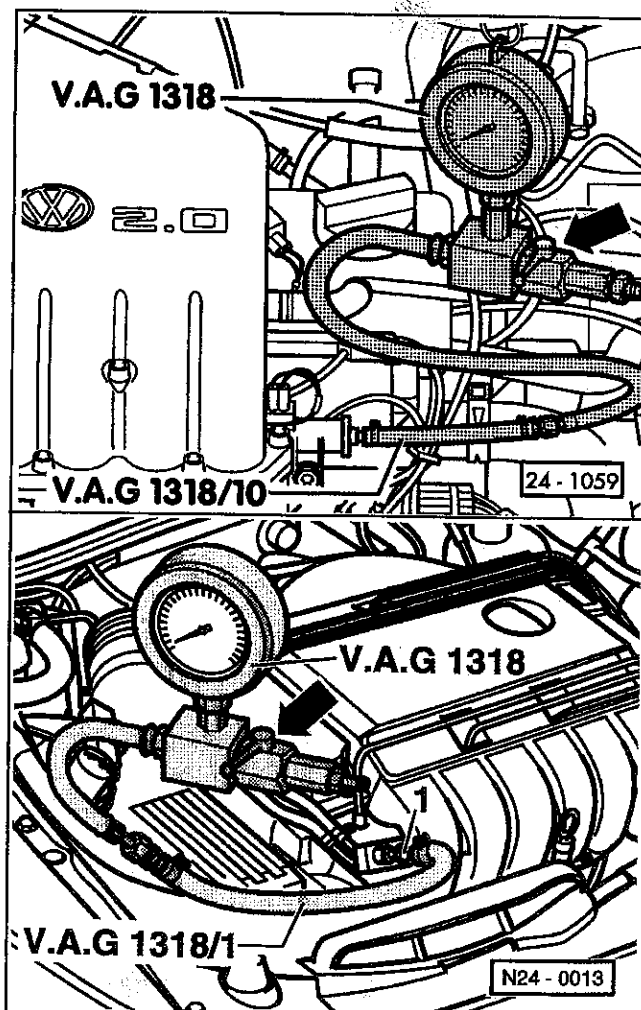

Fig. 7. Fuel pressure gauge installation on ABA engine (top) and AAA engine (bottom). Remove the cap screw from the test port and connect the gauge line.
Checking the fuel pressure is a fundamental part of troubleshooting and diagnosing the Motronic system. Fuel pressure has a direct effect on fuel mixture and driveability. An accurate fuel pressure gauge with a range of at least 0 to 5 bar (approximately 0 to 100 psi) will be needed to make the tests. Fig. 7 shows the connection of the fuel gauge.
1. Relieve the fuel pressure in the system and connect a fuel pressure gauge as shown in Fig. 7
1. Relieve the fuel pressure in the system and connect a fuel pressure gauge as shown earlier in Fig. 7.